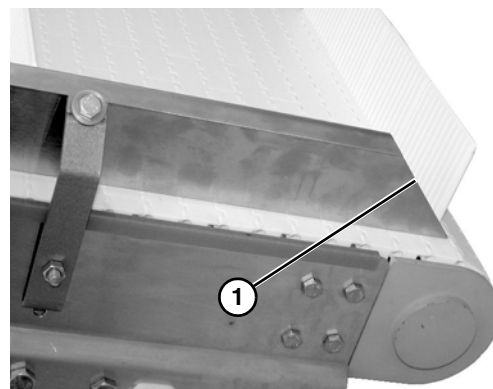

**Figure 40**
3. Attach guide (**Figure 40, item 1**) to the mounting brackets with hex bolts and spacers (**Figure 40, item 2**). Hand tighten only at this time.
4. Ensure that nose of bracket slips under the lip of guide (**Figure 40, item 3**).